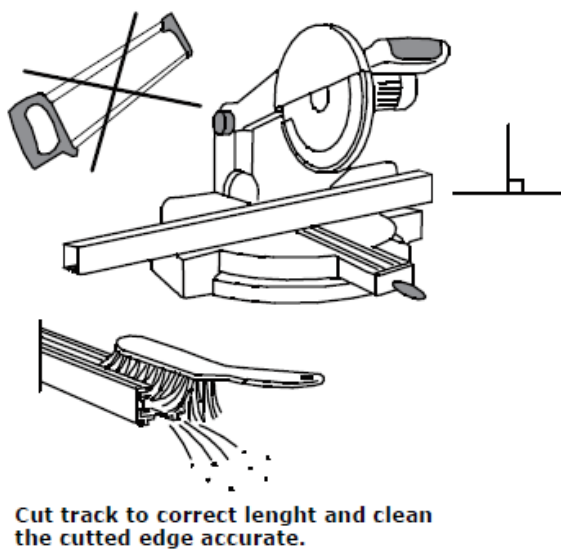

FIG. 1
- Use appropriate machinery to cut track lengths. Always properly clean out any material shavings and or burrs. Ensure a proper 90° angle cut for correct electrical alignment (Fig. 1).